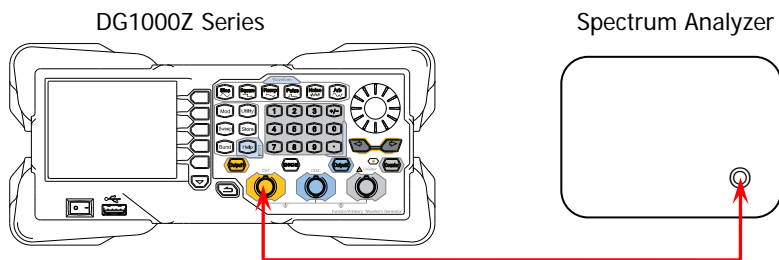

Figure 2-4 Connect DG1000Z and the Spectrum Analyzer
1. Make sure that the environment temperature is between 18°C and 28°C and DG1000Z has been warmed up for at least 30 minutes. Connect the channel output terminal (take CH1 as an example; the test method is also applicable to CH2) of DG1000Z with the signal input terminal of the spectrum analyzer using a dual-BNC connecting cable and N-BNC adaptor as shown in Figure 2-4.
- Make sure that the environment temperature is between 18°C and 28°C and DG1000Z has been warmed up for at least 30 minutes. Connect the channel output terminal (take CH1 as an example; the test method is also applicable to CH2) of DG1000Z with the RF input terminal of the spectrum analyzer using a dual-BNC cable and N-BNC adaptor as shown in Figure 2-4.